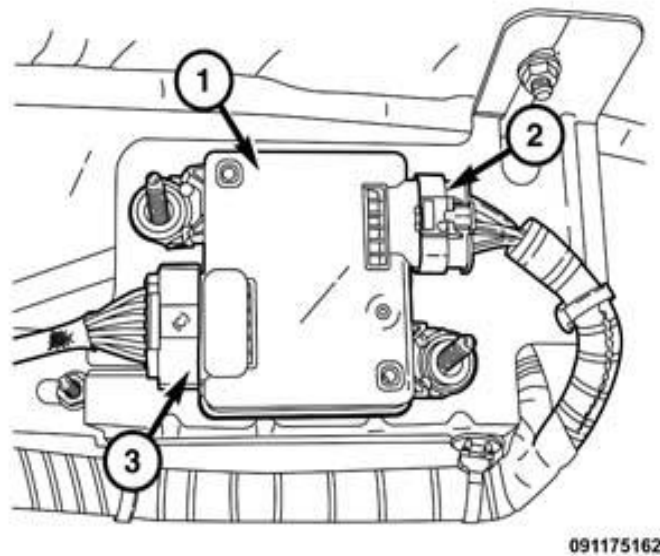

Fig. 16 Modules
29. Disconnect the NOx sensor wire harness connector (2) (Fig. 16).